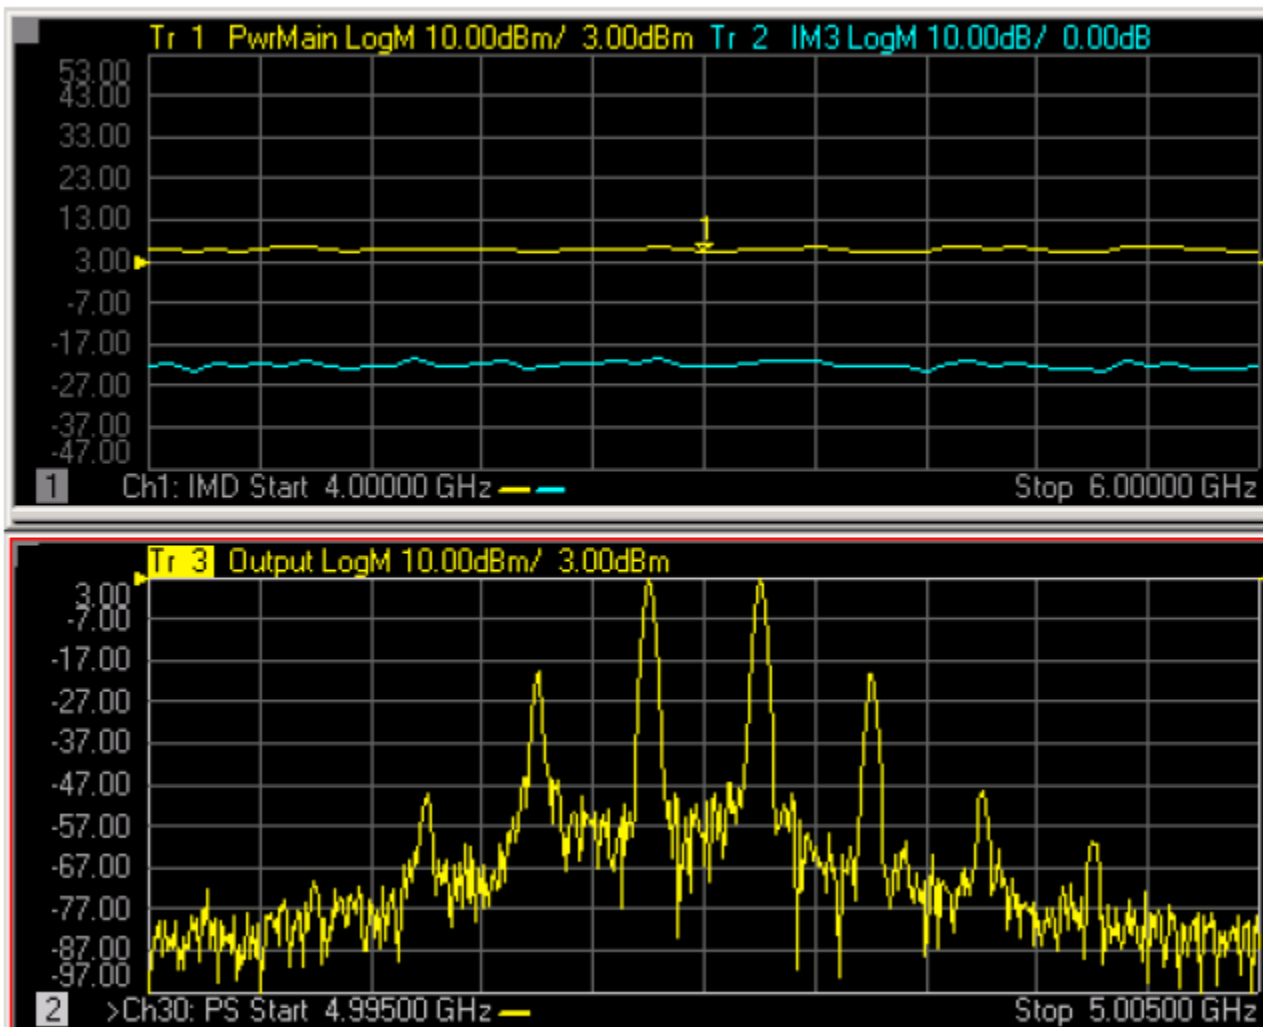

Fig. 7.15 Intermodulation Spectrum Track (lower figure) Frequency Sweep Intermodulation Distortion Track (upper figure)
- The upper figure of Fig. 7.15 shows the intermodulation distortion measurement window, in which the sweep range is 2GHz-3GHz, the sound span is fixed, and the center frequency of the double-tone sound is 2.5GHz.
- The lower figure of Fig. 7.15 shows the intermodulation measurement window. The receiver settings of the intermodulation spectrum channel are mainly used to measure the main sound signals and three-order, five-order and seven-order intermodulation products.